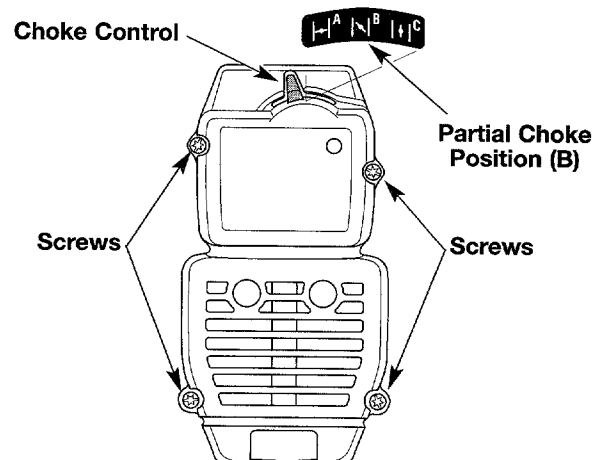

Figure 14
1. Place the choke control in the PARTIAL choke position (B).
**NOTE:** The choke control must be in the PARTIAL choke position (B) to remove the air filter/muffler cover. See Figure 14.
2. Remove the four (4) screws securing the air filter/muffler cover. See Figure 14. Use a flat blade or # T20 Torx bit screwdriver.
**NOTE:** The choke control must be in the PARTIAL choke position (B) to install the air filter/muffler cover. See Figure 14.
- Insert the four (4) screws into the holes in the air filter/muffler cover and tighten. See Figure 14. Use a flat blade or #T20 Torx bit screwdriver. Do not over tighten. Do not force.